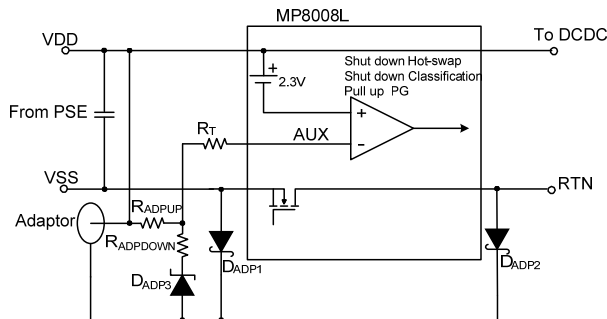

Figure 4: Adaptor Power Detection
The MP8008L uses wall power adapter detection for applications where an auxiliary power source, such as a wall adapter, is used to power the device (see Figure 4). Once the input voltage (VDD - VSS) exceeds about 11.5V, the MP8008L enables wall adapter detection. The wall power adapter detection resistor divider is connected from VDD to the negative terminal of the adapter, and D_{ADP3} is added for a more accurate hysteresis. There is a -2.3V reference voltage from AUX to VDD for adapter detection. The adapter is detected when the AUX voltage triggers, as shown in Equation (1):